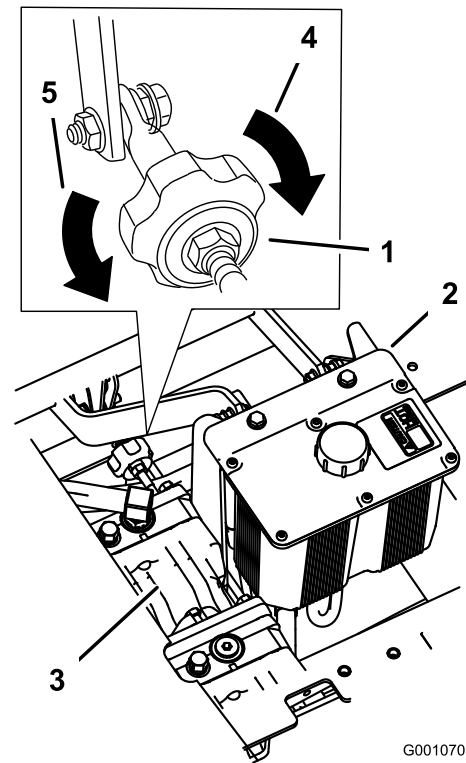

Figure 57
4. To make the machine go right, turn the knob toward the right side of the machine. Refer to Figure 57.
5. To make the machine go left, turn the knob toward the left side of the machine. Refer to Figure 57.